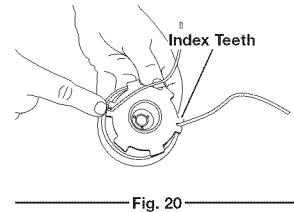

Fig. 20
- Insert the ends of the line into the two holding slots (Fig. 20).